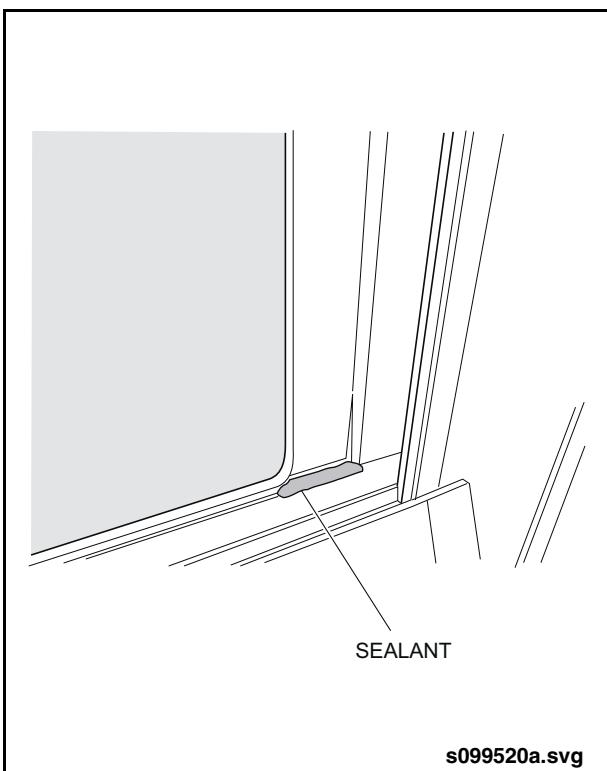

Fig. 14-24: Transom Joint Seal
7. Seal the inside of the window at the frame/transom joint. The sash will have to be removed to inspect this area of the window. See "Fig. 14-24: Transom Joint Seal" on page 29.